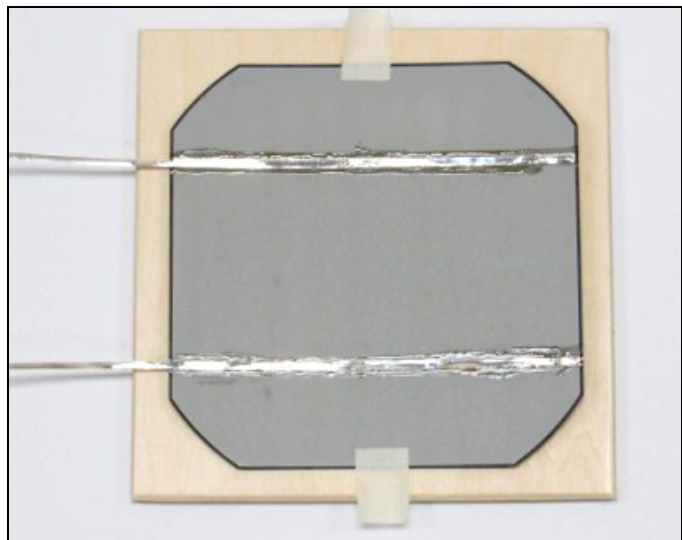

Figure 20
- ✓ Solder another piece of tabbing wire to the second conductive strip. You should end up with something that resembles Figure 20. You may need to add additional solder to your iron tip as you wipe across the cell. A proper solder connection is made when you see the pre-tinned solder (that’s already on the flat wire) melting just slightly ahead of your “wipe” across the cell.